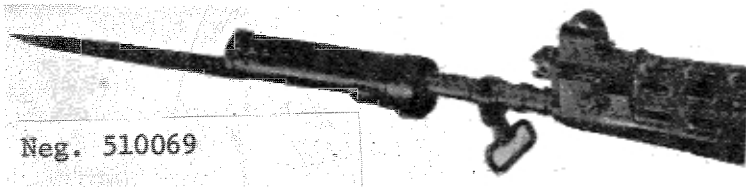

Figure 70. C.A.L. bayonet.
b. Affix the bayonet (fig 70) by sliding it over the flash suppressor until the catch locks onto the back of the suppressor. To remove the bayonet, push the catch out of engagement and pull the bayonet forward off the weapon.